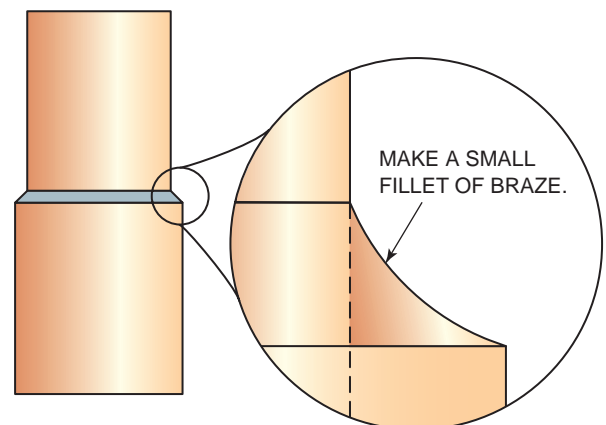

FIGURE 5-45 Making a smooth brazed fillet is a good way to prevent pinhole leaks.
9. Next, move the torch and brazing rod around the pipe and fitting, so that the entire joint will be filled. There should be a slight fillet showing all the way around the joint, **Figure 5-45**. *Note:* The braze metal fillet adds very lit-